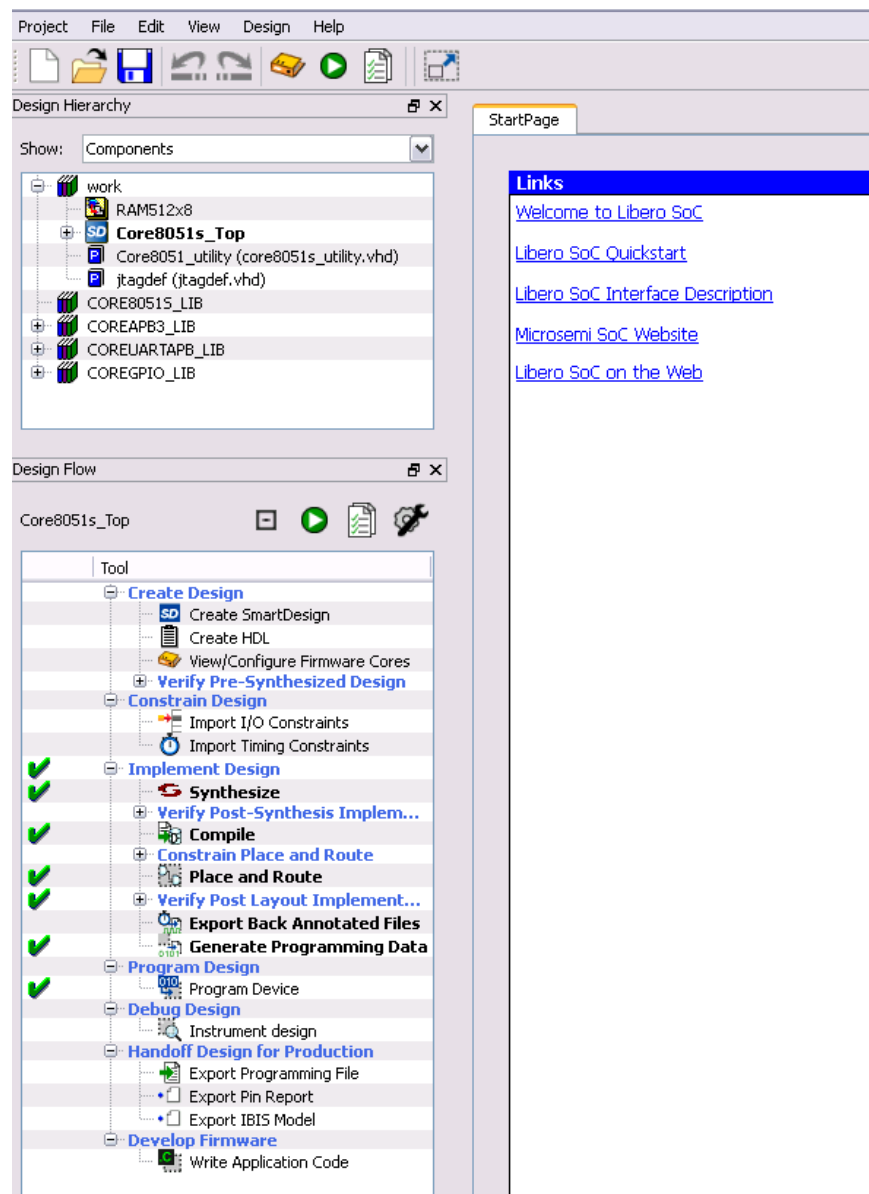

Figure 5 Project Flow Window
5. The project flow window is displayed, as shown in Figure 5.